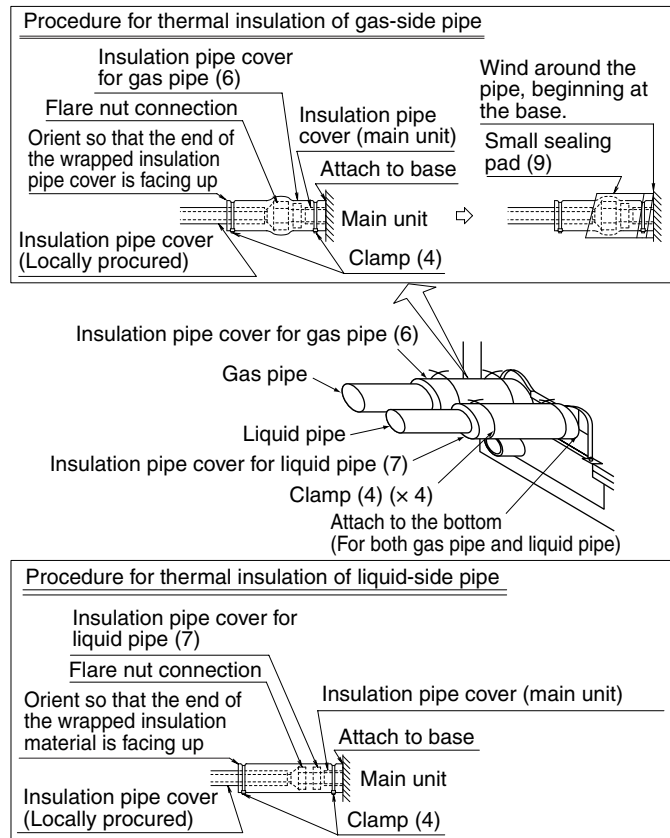

Fig. 16
- Make absolutely sure to execute thermal insulation works on the pipe-connecting section after checking gas leakage by thoroughly studying the following figure and using the insulation pipe cover (6) and (7). (Fasten both ends with the clamps (4).) (Refer to Fig. 16)
- Wrap the small sealing pad (9) only around the insulation for the joints on the gas piping side. (Refer to Fig. 16)